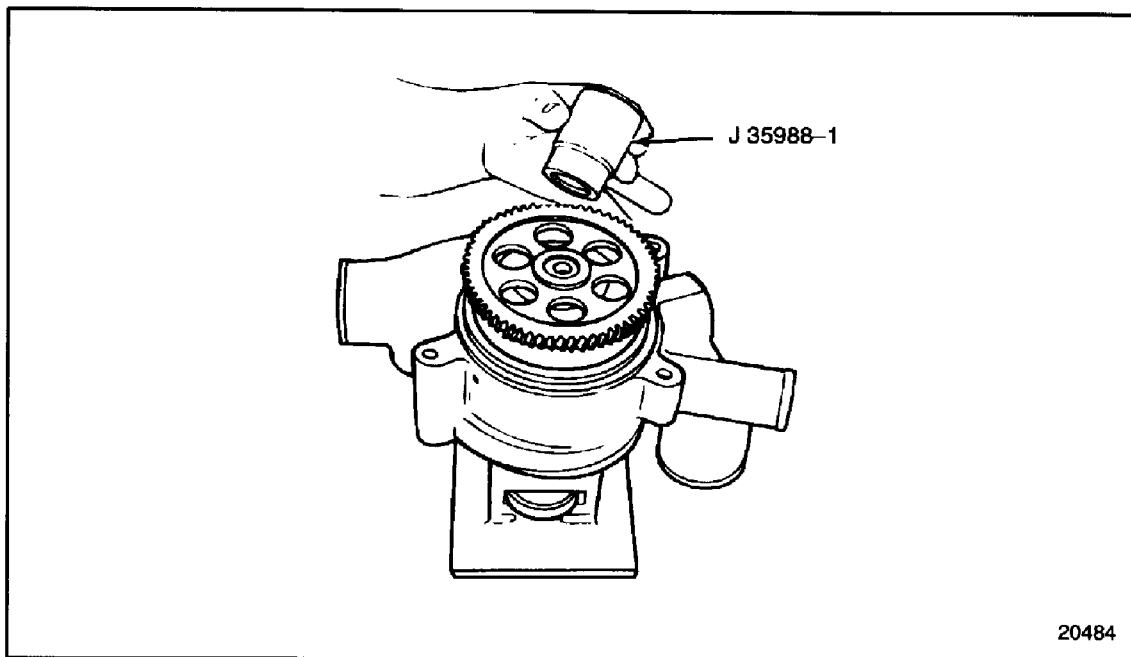

Figure 4-29 Water Pump Drive Gear Installation
23. Using the small end of tool J 35988-1 part of J 35998-B, part of tool set J 35988-B, press the drive gear down onto the drive shaft until it touches the bearings. See Figure 4-29.